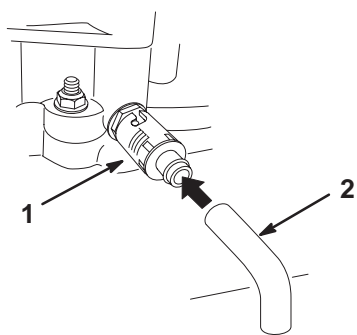

Figure 20
6. Place a pan below the drain hose. Rotate oil drain valve to allow oil to drain (Fig. 20).
8. Remove the drain hose (Fig. 20).